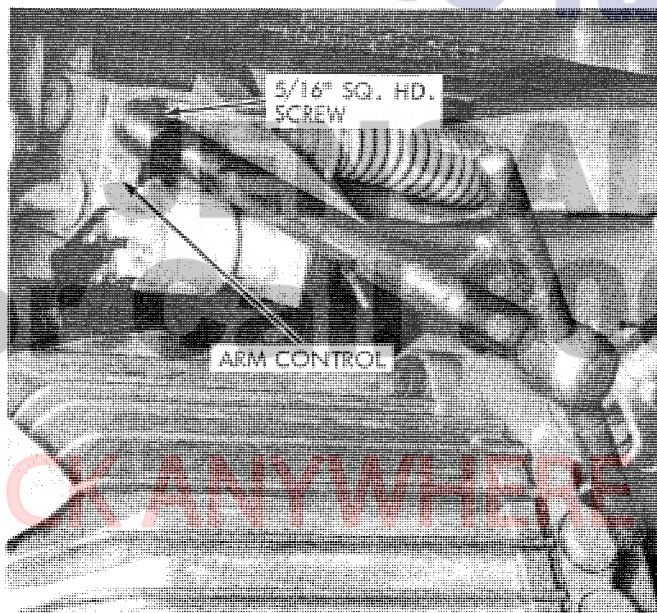

Figure 51.
- a. Loosen the 5/16" square head screw on the arm control as shown in Figure 51.
- c. Tighten the 5/16" square head screw and torque to 12 foot pounds. A tool as shown in Figure 51 may be used to make the adjustment, or a 5/16" socket with an extension may be used.